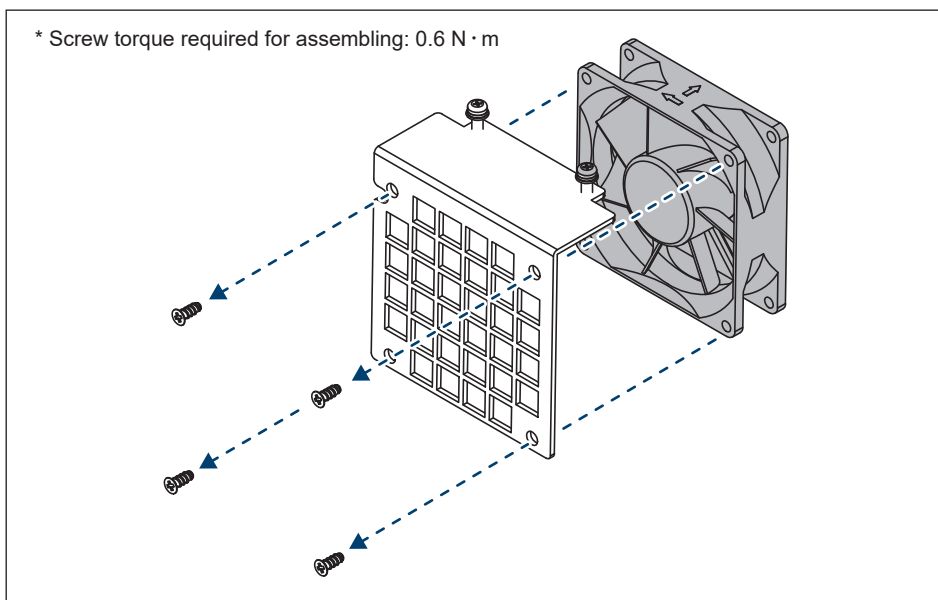

Figure 5-17: Replace with a new fan
- (3) Lift the entire fan assembly. **(Figure 5-17)**
- (4) Clean assembly or replace with a new fan.
- (5) Reassemble using the tightening torque of recommended.